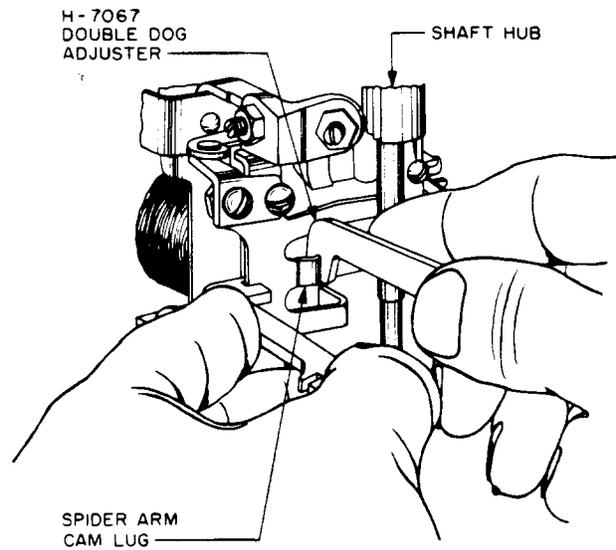

Fig. 12 – Method of Adjusting the Clearance Between the Spider Arm Cam Lug and the Shaft Hub
(1) To change the clearance between the spider arm cam lug and the shaft hub, raise the shaft to the fifth level and adjust the lug as required with the H-7067 double dog adjuster as shown in Fig. 12.